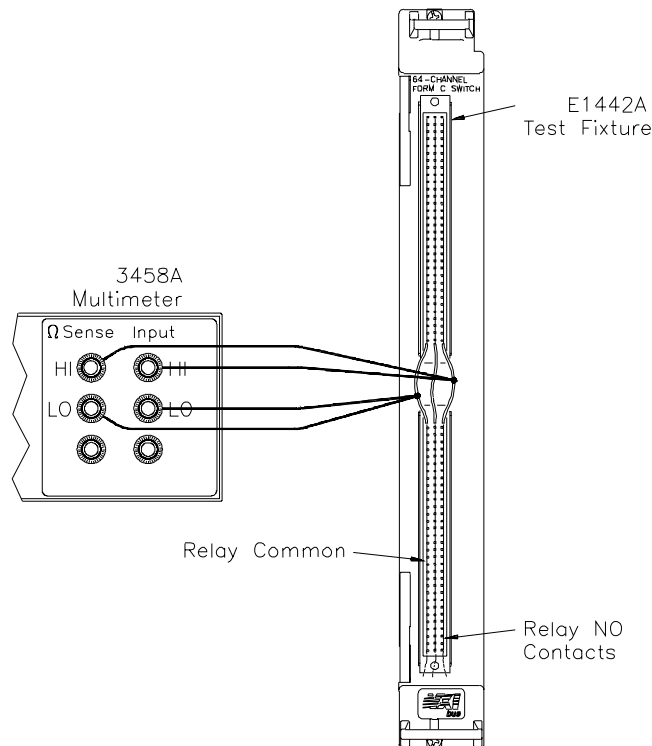

Figure 2-2. COM to NO Lines Test Hardware Setup
1. **Hardware Connections.** See Figure 2-2.